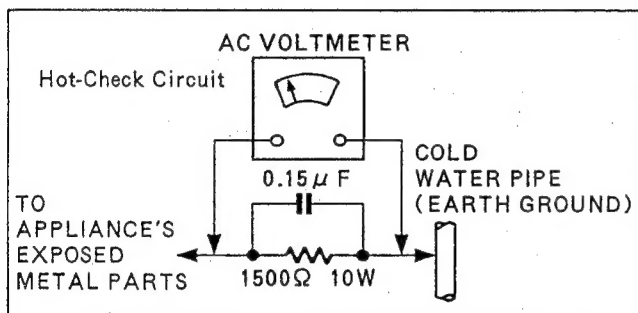

Figure 1
## LEAKAGE CURRENT HOT CHECK (See Figure 1)
2. Connect a 1.5 K $\Omega$ , 10 W resistor, in parallel with 0.15  $\mu$  F capacitor, between each exposed metallic part on the set and a good earth ground such as a water pipe, as shown in Figure 1.